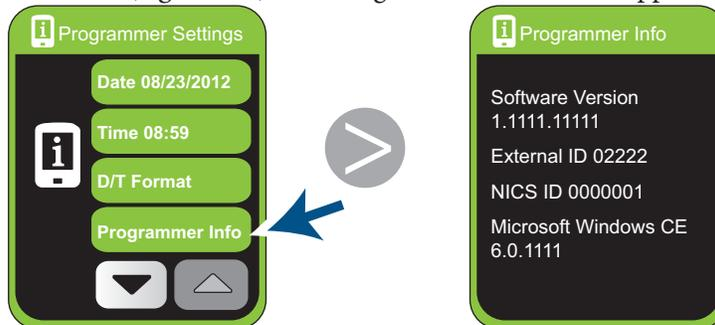

Figure 102. Displaying the Programmer Information screen
2. Tap  (Figure 102). The Programmer Info screen appears.